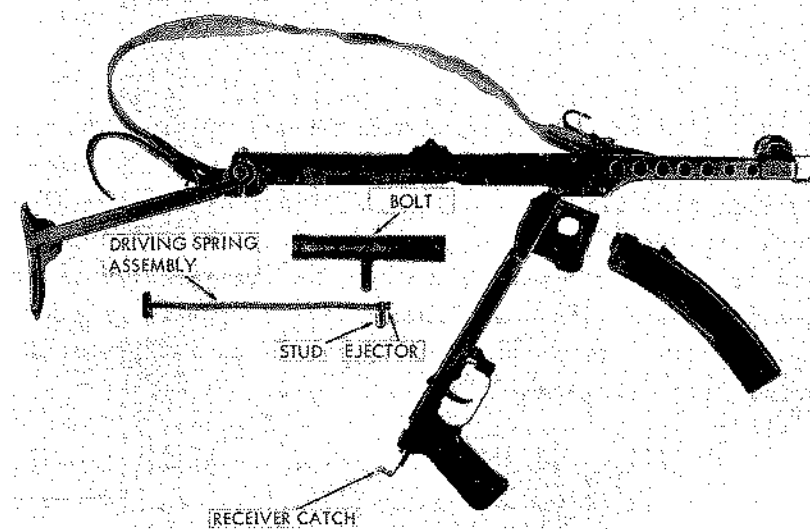

Figure 40. PPS-43 field stripped.
(1) Clear the gun (para 63h above), but do not apply the safety or insert the magazine.
(2) Press in on the receiver catch at the lower rear end of the receiver; then swing the lower receiver down (fig 40). Pull the operating handle slightly rearward and then swing the bolt downward, out of the receiver. Pull the driving spring assembly sideward, out of the bolt.